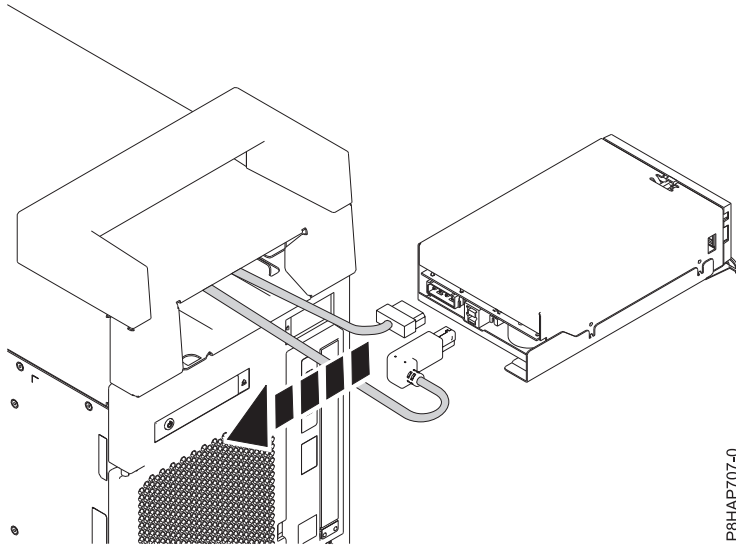

Figure 62. Disconnecting the internal RDX docking station (FC EUA3) USB and power supply cables
4. Disconnect the power supply cord from the back of the internal RDX docking station (FC EUA3). See Figure 62 on page 70.